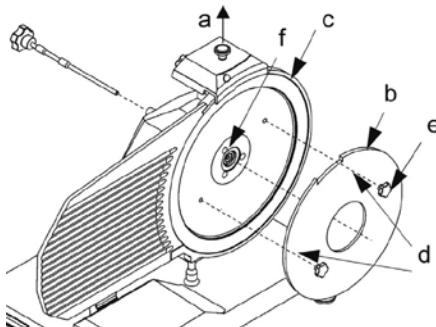

Fig. 7 – Assembling the Plexiglas blade removal tool (b)
To clean the opposite surface of the blade it is necessary to remove the blade [see Fig. 7].
- disassemble the blade guard (see Fig. 7);